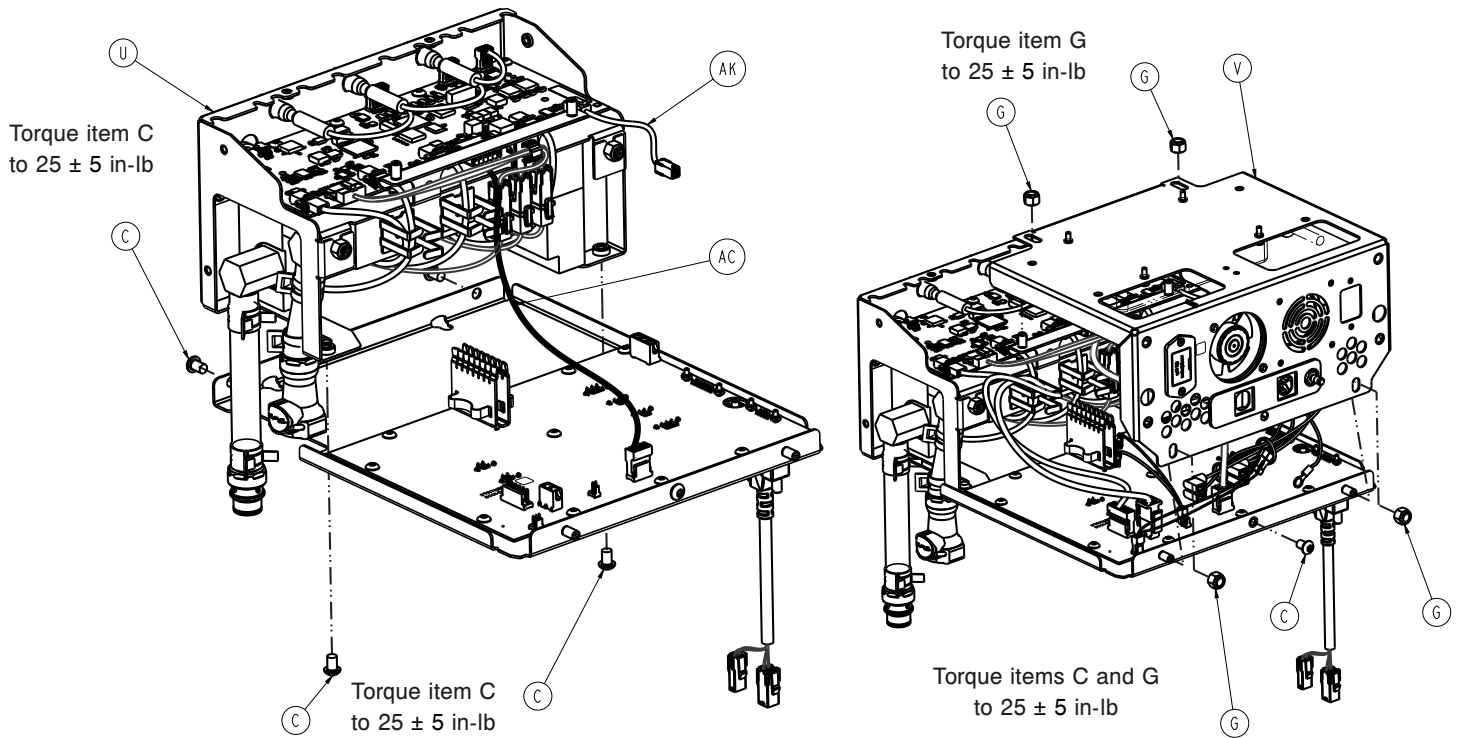

Figure 32 – Power supply
10. Using a 7/16" socket, remove the four locknuts (G) that secure the power supply mount to the control assembly (Figure 32). Save the locknuts.
11. Using a T27 Torx driver, remove the screw (C) that secures the power supply mount to the control assembly (Figure 32). Save the screw.